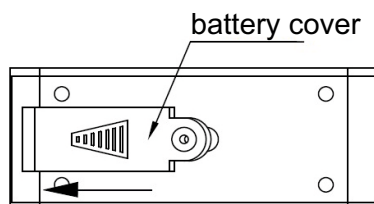

Fig. 2
- » Slide the battery cover 2 mm (Fig. 2), remove the battery cover.